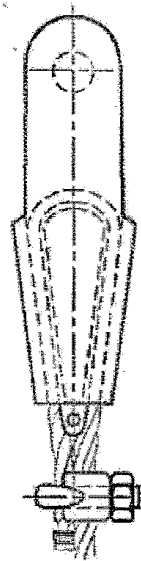

Figure 1: Method of operation for the dead end of the rope
6. When the suspension is made, the dead end of the rope has to be long enough to ensure the securing acc. to figure 1.